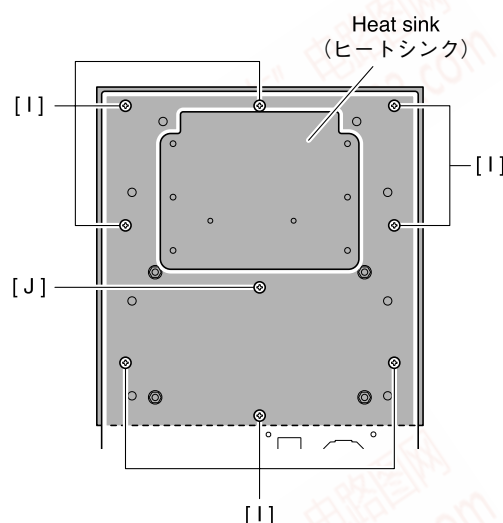

Fig. 11 (図 11)
- 7-4 Remove the eight (8) screws marked [I] and screw marked [J]. The heat sink can then be removed. (Fig. 11)
- 7-4 [I]のネジ8本と[J]のネジを外し、ヒートシンクを外します。(図 11)